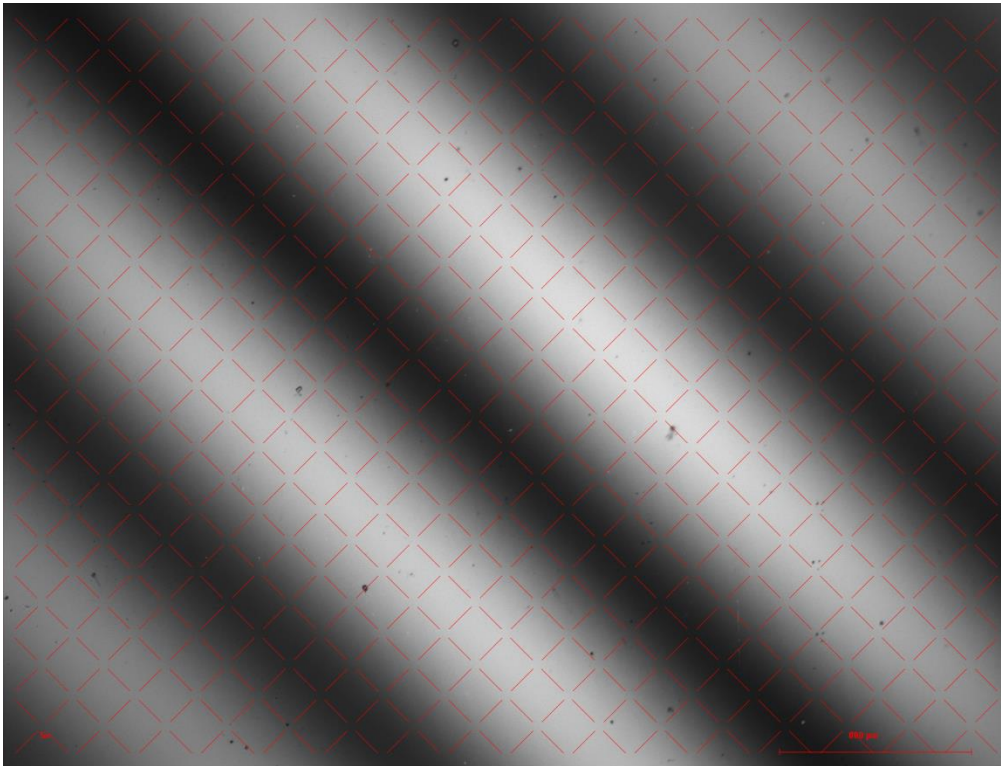

FIGURE 25: READJUSTED ALIGNMENT OF THE INTERFERENCE FRINGES WITH THE SHOWN GUIDE LINES
7. As can be seen in Figure 24b if the tilting stage is not yet properly aligned the 45° orientation of the interference fringes will drift. In this case readjust the alignment of the interference fringes with the guide lines using the first tilting screw, in this example the left screw. In Figure 25 the accurately aligned interference fringe pattern is shown